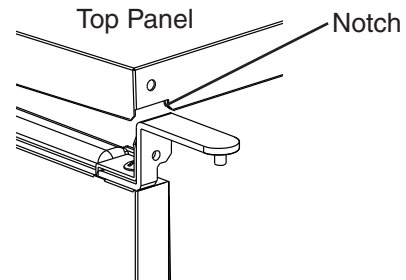

Fig. 7
e) Rotate the top panel 180° from its previous position. This brings the notch that was previously in the right rear to the left front. See Fig. 7. Hook the rear part of the panel on the body, then secure the front with the 2 bolts removed in step 6a.